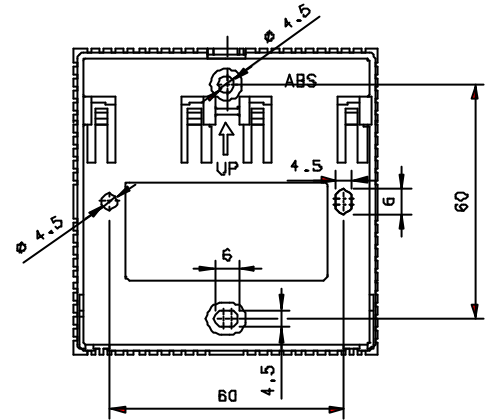

Figure 2: Mounting Dimensions of
4. Mount the base on the wall to cover the electrical outlet and secure with at least two screws (See Figure 2).